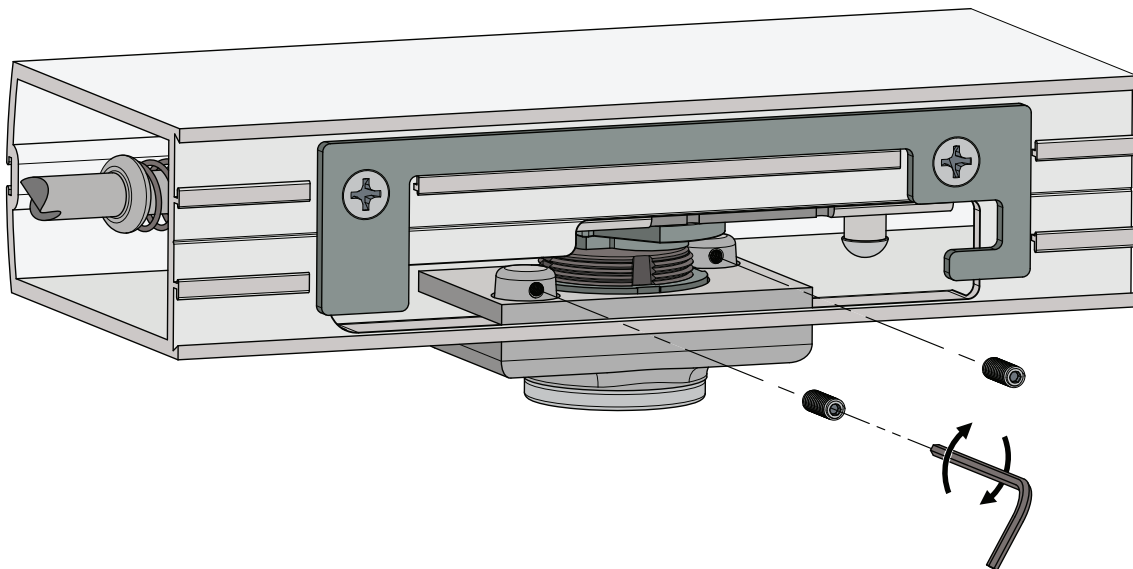

FIG. 11
2. Attach to the exterior of the Active Stile with **(D)** (2) 8-32 x 1/2" set screws. **(Fig.11)**